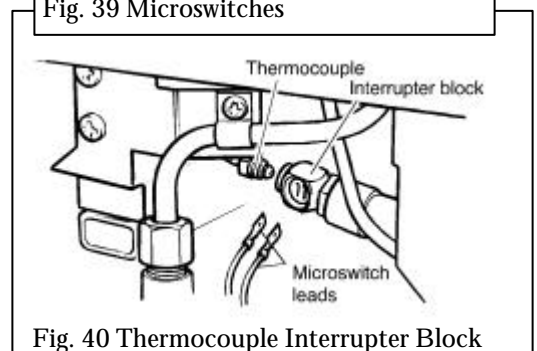

Fig. 40 Thermocouple Interrupter Block
14.2.3 Loosen the thermocouple nut to free the microswitch leads and pull the leads clear of the thermocouple interrupter block (see figure 40).